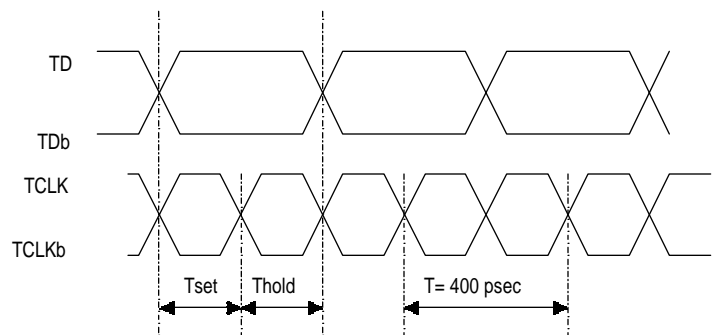

Figure 4 Input Data and Clock Timing
3. Refer to Figure 4. 4. Default (Open) normal operation. 5. Default (Open) clocked mode. 6. Alarm will be launched when LD bias current exceeds 70mA typ.